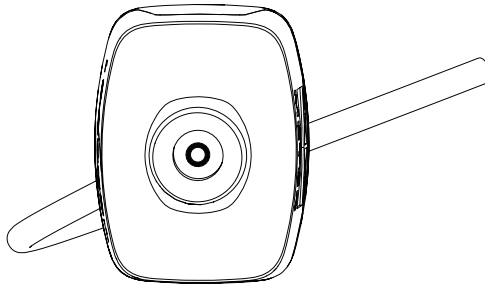

Figure 14 O-ring inside sensor unit
If water potential rises slowly or not at all, even though the TEROS 31 is properly filled, the O-ring inside the sensor unit (Figure 14) may be worn out and needs to be replaced.
2. Use needle-nose or surgical tweezers to remove the old black O-ring (Figure 14).